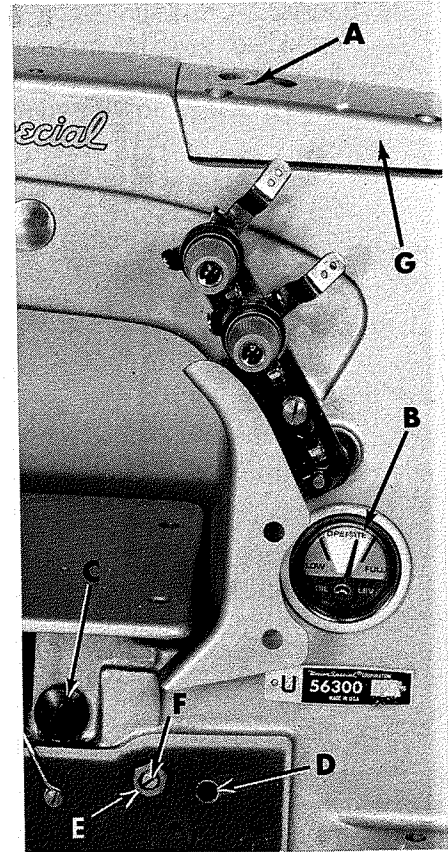

Fig. 2
Before operating, fill machine with oil at plug screw (A, Fig. 2). While filling machine with oil, check gauge (B). When proper oil level is reached, gauge needle will register on black line marked "FULL". Oil must be added when gauge needle registers on black line marked "LOW". Although the machine can be operated safely when gauge needle registers in the "OPERATE" zone, it is recommended to always check oil level before operating, to be sure machine is filled with oil to the "FULL" mark. CAUTION: DO NOT over fill machine.
- Remove plug screw (C, Fig. 2) and tip machine forward to drain all oil from reservoir.
- Fill reservoir until oil is even with bottom of knee press shaft bushing (D).
- Loosen locknut (E) and rotate calibrating screw (F) as required until gauge needle registers on the black line marked "LOW".
- Tighten locknut (E), then replace plug screw (C) and lower crank chamber cover.